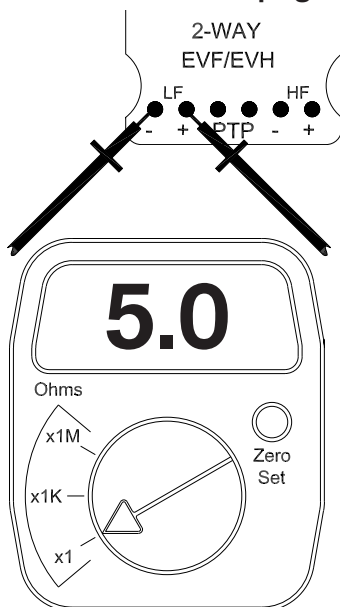

Figure 3:
1. Test the woofer: Place one test lead securely on each of the RED test points on the Access Card. A properly functioning woofer will read approximately 5.0 ohms DCR, ± 0.5 ohm (See Figure 3). A significantly higher reading indicates an open voice coil, meaning the woofer must be replaced. A significantly lower reading indicates a voice coil that is shorting, meaning the woofer must be replaced.